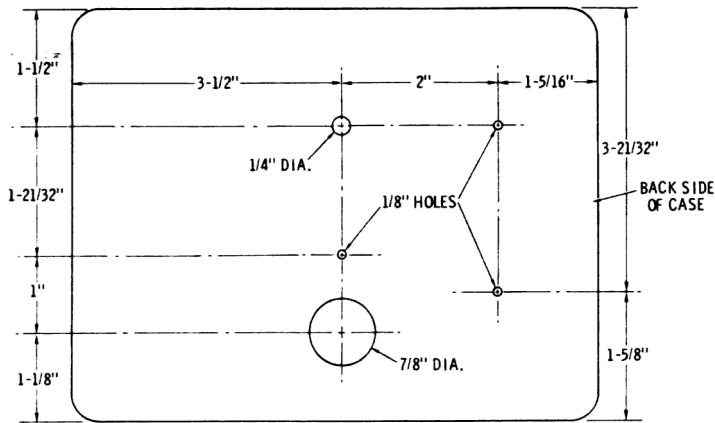
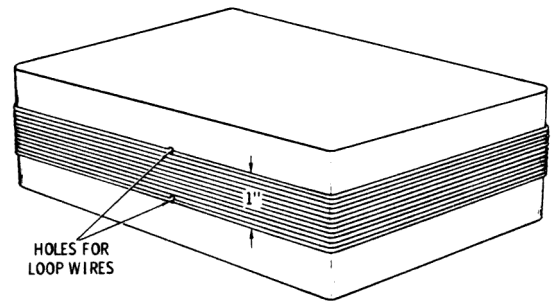
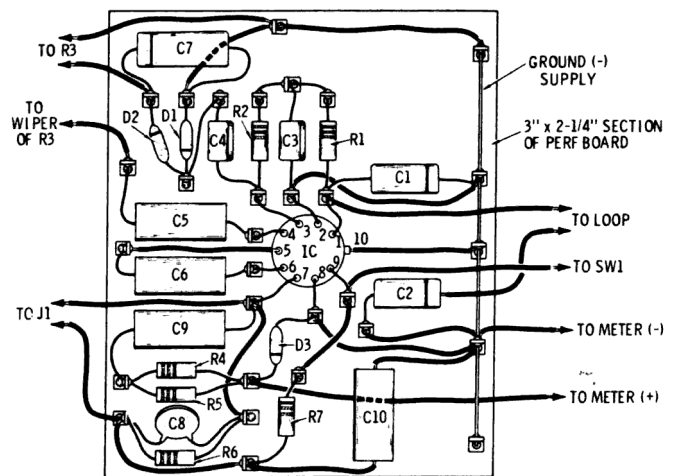

Figure 4: Transmitter Housing.
Figure 5: Receiver/transmitter loop location.
Figure 7: Receiver parts layout.
*Transmitter* - Because it will be needed to check and tune the receiver, start with the transmitter. The first step is to drill and cut all holes in the case to correspond with those shown in Fig. 4. This must be done with care as the case material will damage easily if abused. After the cutting and drilling have been completed, the loop coil should be wound on the perimeter of the case (Fig. 5).
The receiver will function best if construction matches the drawing in Fig. 7. The metal case of the gain control R3 must be connected to the negative side of the circuit. This can be done by soldering a wire from the case of the control to the circuit ground. The loop coil should be wound to match exactly the transmitter loop in Fig. 5. A plug and socket are used in the receiver to link the circuit to the loop antenna.